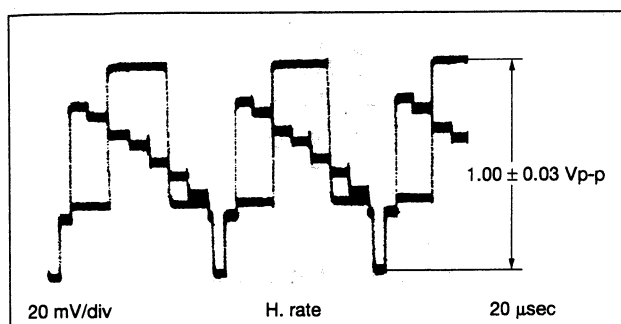

Fig. 3-3-6 PB Y level
- (1) Connect an oscilloscope to Y OUT TERMINAL.
- (2) Set EVR mode by pressing "K" button of the presetting unit more than 2 seconds.
- (3) Set "A : 11" pressing 1 digit key twice of the remote controller.
- (4) Record a color bar signal in the S-VHS mode, and playback recorded color bar signal.
- (5) Adjust CH "▲" or "▼" button for $1.00 \pm 0.03V_{p-p}$ as shown in Fig. 3-3-6.
- (6) Set normal VCR mode by pressing "K" button of the presetting unit again so adjustment data is memorized.
- (7) Repeat steps (1) to (6) in the VHS mode.